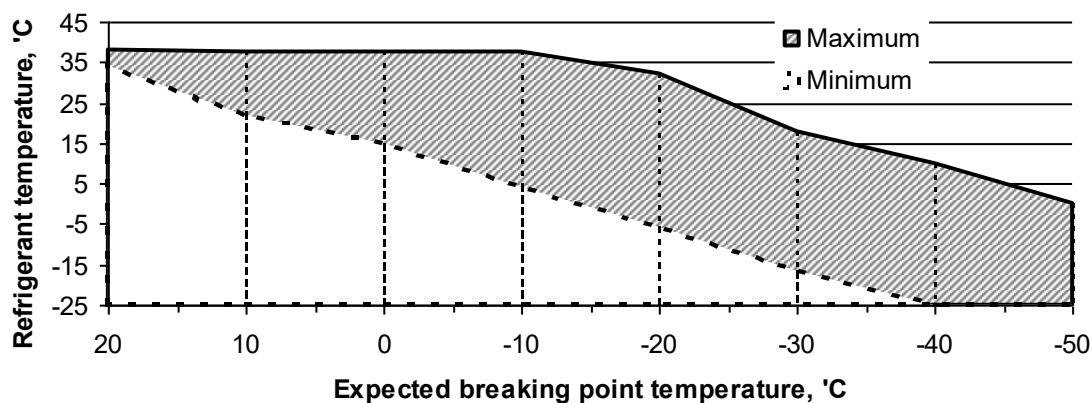

Figure 7 – The dependence of the temperature of the refrigerant on the expected temperature of breaking point
4.4.1.9 The dependence of the temperature of the refrigerant on the expected temperature of breaking point is shown in Figure 7.